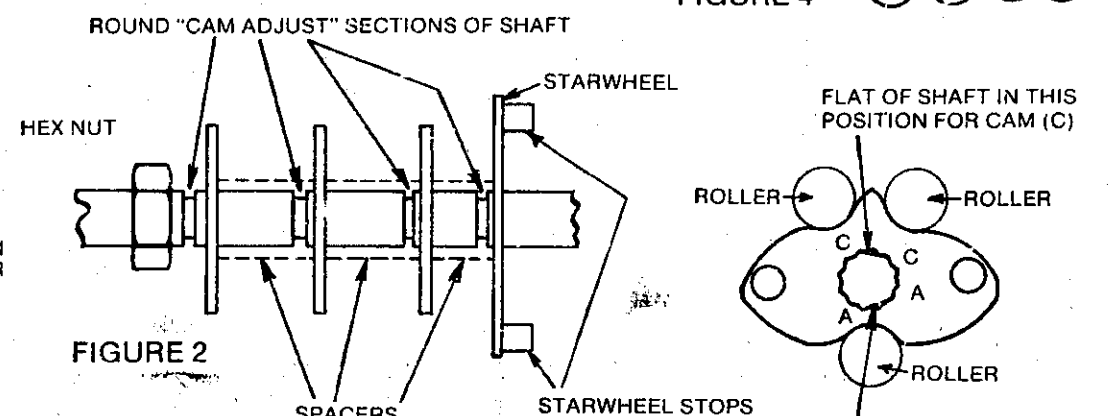

FIGURE 3
- 4A. Adjust Starwheel until the letters (A-A) for Cam A align on the flat of the Shaft (Item 10) or Letters (C-C) align with the flat of the Shaft for Cam C. See Figure 3. Then tighten (Item 12) to secure Starwheel. Tighten Stop Screw (Item 18).